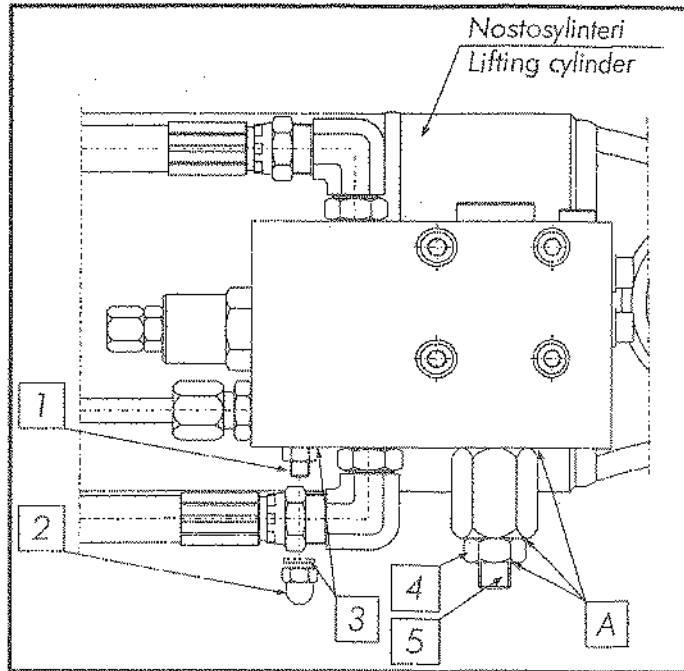

Figure 16-1
2. Remove capped nut 2 of choker screw 1 in the valve block of the lifting cylinder (figure 16-1).
9. If the time is less than 15 seconds, open locking nut 4 of adjusting screw 5 (figure 16-1) and unscrew adjusting screw 5 in which case the time becomes longer and the lowering movement becomes slower.
12. Seal points A after adjustment (figure 16-1).